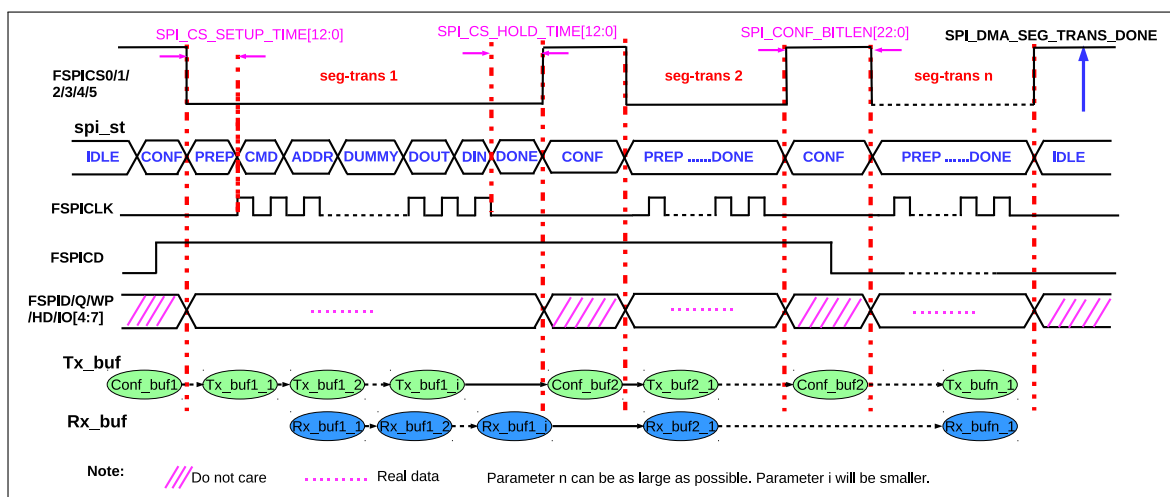
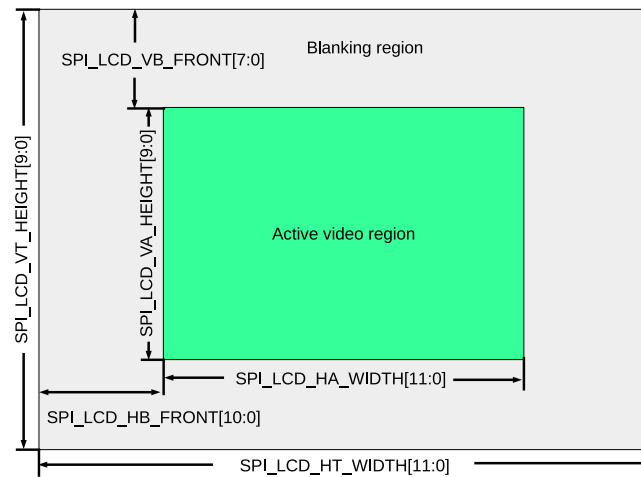
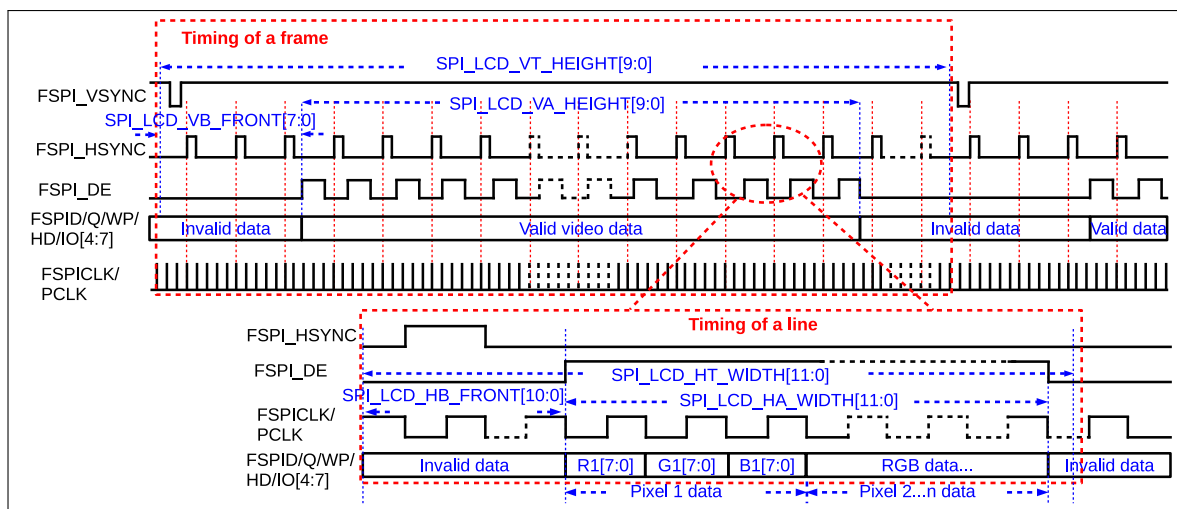

Figure 24-9. Segmented-Configure-Transfer in DMA Controlled Master Mode
Figure 24-10. Video Frame Structure in Parallel RGB 8-bit LCD Mode
Figure 24-11. Timing Sequence in Parallel RGB 8-bit LCD Mode
An SPI transfer, controlled by the registers of `GP-SPI2`, needs to be configured and triggered by the CPU. To reduce CPU cost and to increase the efficiency of `GP-SPI2`, DMA segmented-configure-transfer function is provided in DMA-controlled master mode. (Note that CPU-controlled master mode does not support segmented-configure-transfer function.) Segmented-configure-transfer enables `GP-SPI2` to do as many times of transfer as configured, with only one triggering by CPU. Figure 24-9 shows how the segmented-configure-transfer function works in DMA-controlled master mode.
As shown in Figure 24-9, `GP-SPI2` registers can be reconfigured by `GP-SPI2` hardware according to the content in a `Conf_bufi` during `CONF` state, before one single segmented-configure-transfer, `SCTi`, begins.
For example, as shown in Figure 24-9, SCT i can be configured to DMA-controlled full-duplex communication; SCT j can be configured to DMA-controlled half-duplex MISO mode; and SCT k can be configured to DMA-controlled half-duplex MOSI mode. i , j , and k are integer variables, which can be any SCT number.
Figure 24-10 shows the video frame structure of a parallel 8-bit RGB mode LCD.
It can be seen from Figure 24-9, Figure 24-10, and Figure 24-11 that a good way for GP-SPI2 to output parallel 8-bit RGB frame data is as follows:
- Data is output in each frame line in a segmented-configure-transfer. One valid video line is transferred in each single transfer (i.e. SCT_i in Figure 24-9) of segmented-configure-transfer. There are SPI_LCD_VA_HEIGHT[9:0] active video region lines in a frame, so that a frame data is sent in SPI_LCD_VA_HEIGHT[9:0] times of SCT_i.
GP-SPI2 can output the frame data automatically as shown in Figure 24-10 and Figure 24-11, which significantly lowers the CPU time required to control the SPI transfer. The configuration flow is as follows:
2. Configure frame control registers, as shown in Figure 24-10 and Figure 24-11, in accordance with the